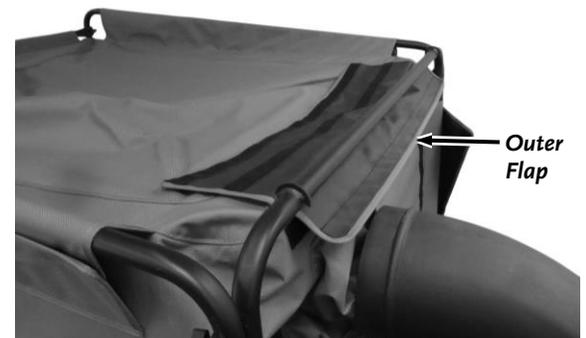

Figure 85
4. Unhook the Velcro Flaps that secure the Enclosure to the Top Front Tube (**Figure 85**).